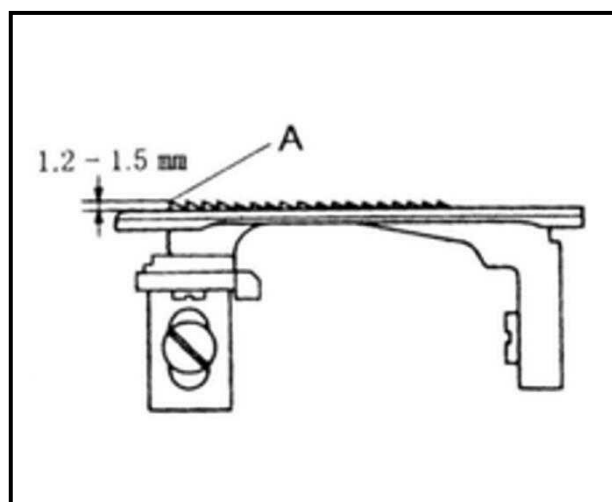

Fig.60
当牙齿在最高点时，主送齿③和针板高度为 1.2-1.5mm，前后牙齿必须保证一样的高度。(Fig.60)
Align the differential feed dog even with the main feed dog. (Fig.60)